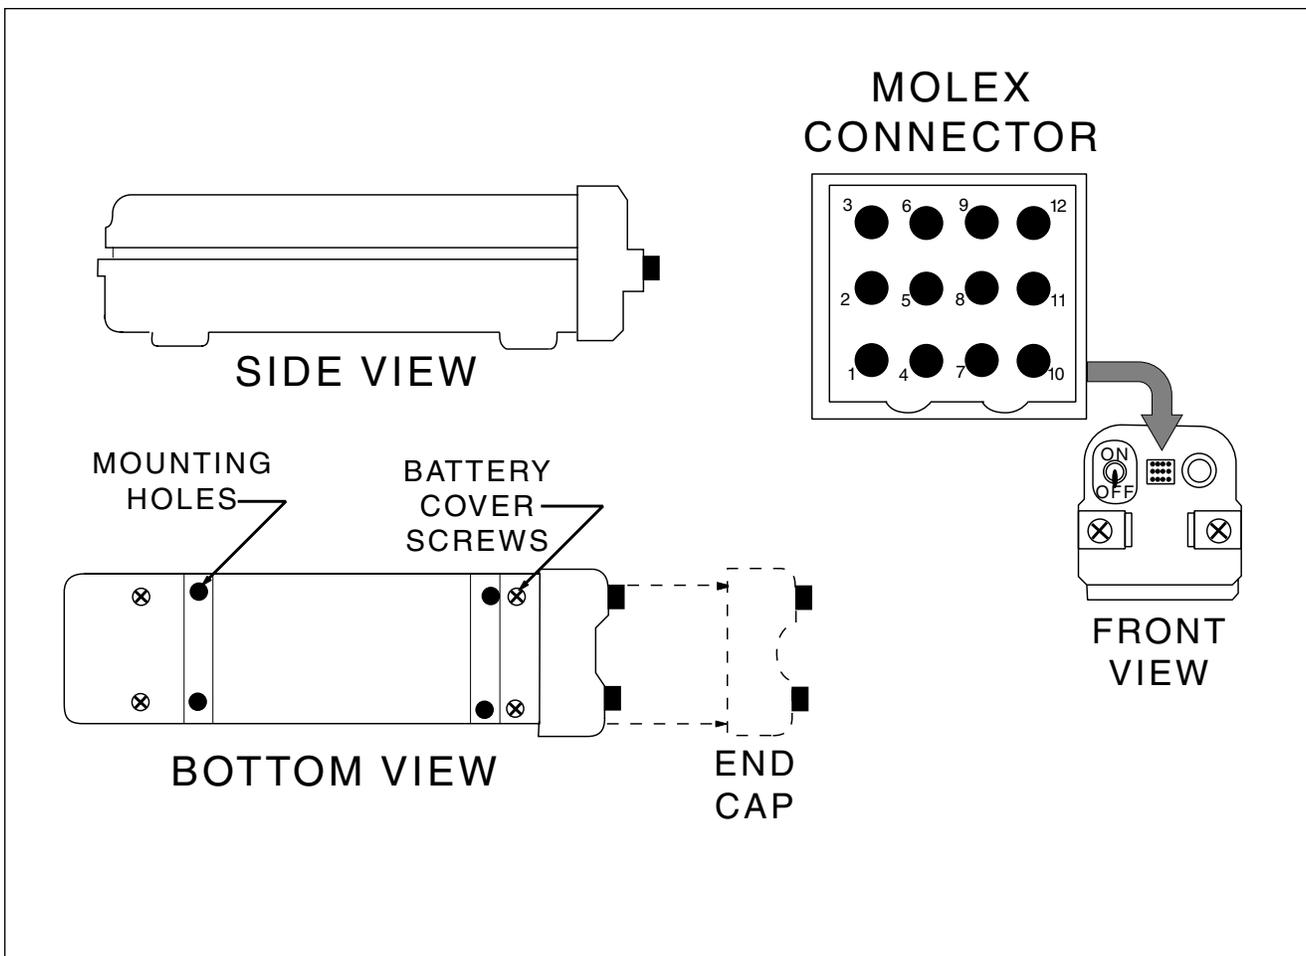

Figure 23-2. Artex 110 ELT
B. Artex ELT-110 Battery Removal And Installation (Refer to Figures 23-2 and 23-3.)